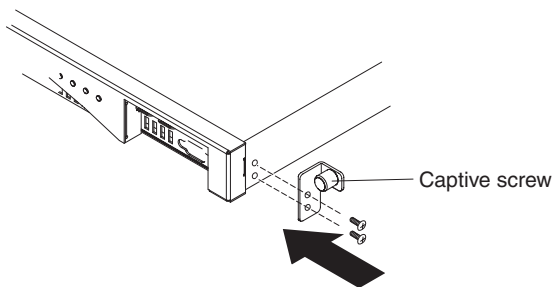

Figure 8. The bracket attaching to the appliance chassis
3. Attach the brackets with the captive screws, as shown in Figure 8. Attach the right bracket to the appliance chassis: